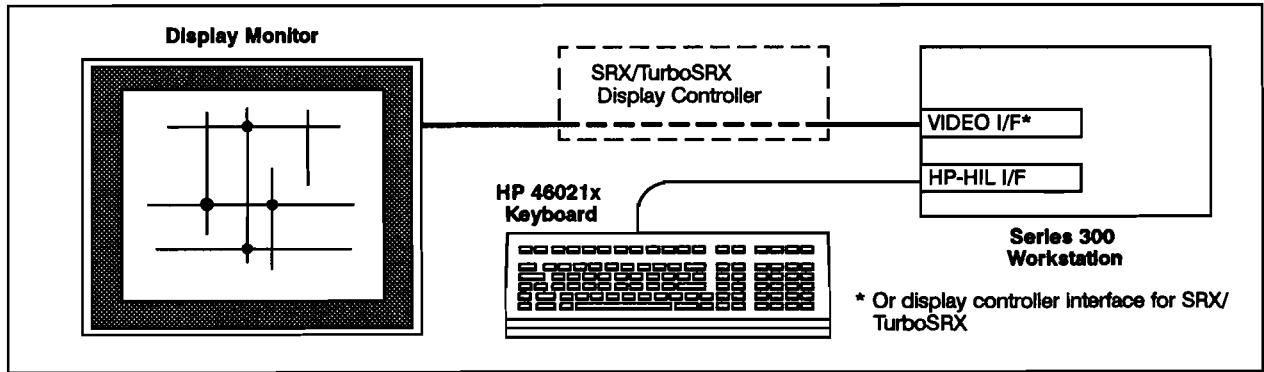

Figure 13-1. Display Monitor and Keyboard Connections to Series 300 Workstations
- Workstation Display Monitor Subsystem (see Table 13-1) and HP-HIL Keyboard (see Figures 13-1 and 13-2, next page).